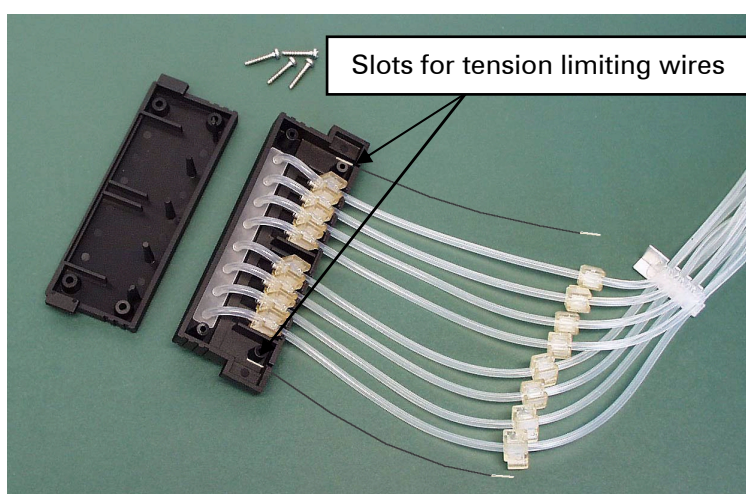

Fig. 7.19 Tension limiting wires attached
4. Attach the tension limiting wires into their slots (*Fig. 7.19*).